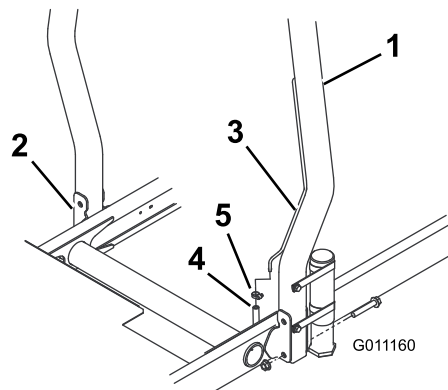

Figure 12
1. Lower the roll bar onto the traction unit mounting brackets, aligning the mounting holes. Ensure that the vent tube on the roll bar is on the left side of the machine (Figure 12).
2. Secure each side of the roll bar to the mounting brackets with 2 flange head bolts and locknuts (Figure 12). Torque the fasteners to 81 N-m (60 ft-lb).